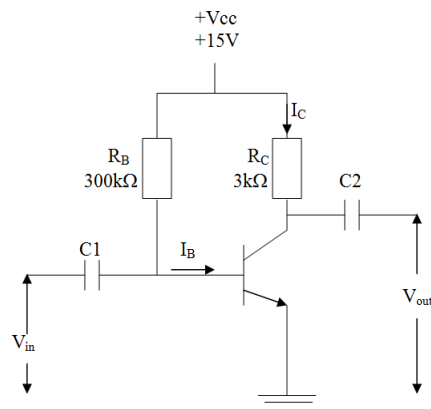

Figure 3.42
10. Refer to Figure 3.42. Given the value of $\beta = 60$ and $V_{BE} = 0.7V$.